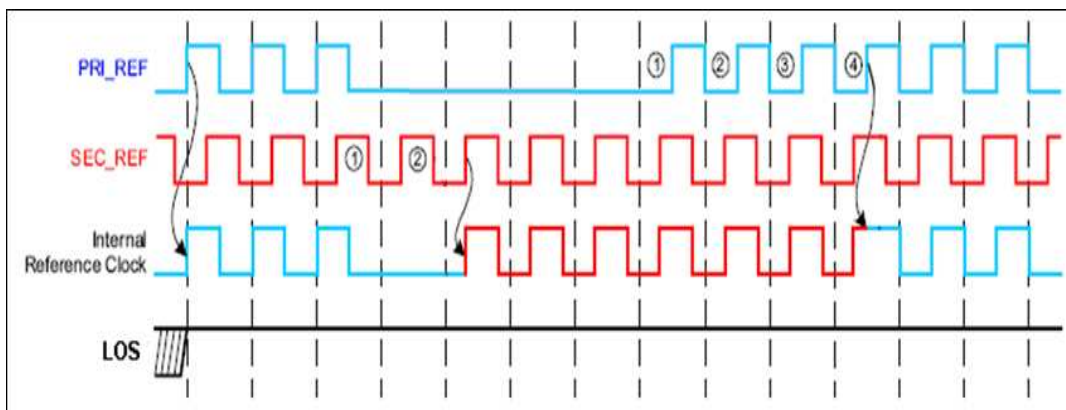

Figure 37. Smart Input MUX Auto-Switch Mode Timing Diagram
**Switching behavior:** The input clocks can have any phase. When switching happens between one input clock to the other, the phase of the output clock slowly transitions to the phase of the newly selected input clock. There will be no-phase jump at the output. The phase transition time to the new reference clock signal depends on the PLL loop filter bandwidth. Auto-switch assigns higher priority to PRI\_REF and lower priority to SEC\_REF. The timing diagram of an auto-switch at the input MUX is shown in Figure 37.